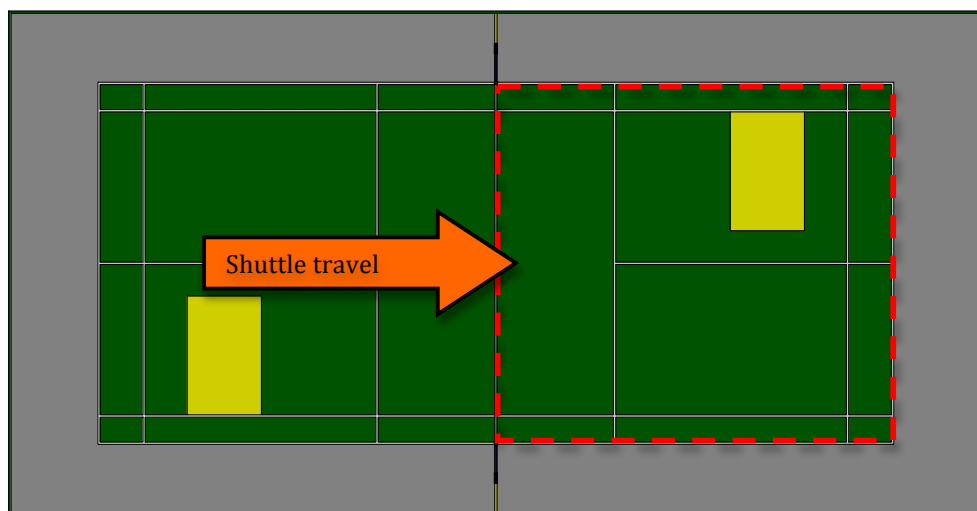

Figure 5: Legal landing area of shuttle hit (indicated by red dash-line)
- 4.5.3. Excluding service, if the shuttle hit by the racket lands in the opponent's court (including border line, refer to Fig.5) or comes into contact with the opponent's robot (if operated by cable, including cable and its operator) the team will gain score.
- 4.5.4. If the shuttle hit by the racket doesn't land on the opponent's court, (including border line, refer to Fig.5) opponent team will gain score.